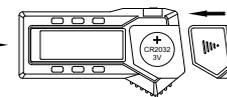

fig.5
- Put CR2032 battery into battery house, the positive side of battery (+) should face out(fig.5)